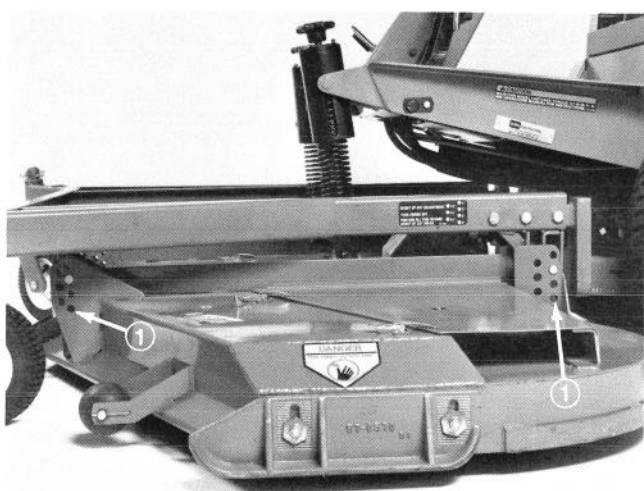

Figure 27
2. Raise height-of-cut to 4 in. (102 mm) position (Fig. 27); refer to Adjusting Height-Of-Cut, page 8.